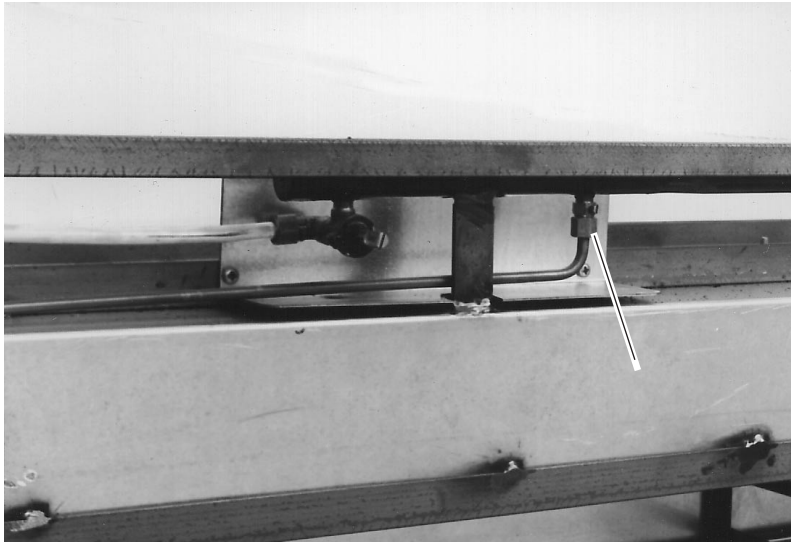

Fig. 6
2. Disconnect the compression nut from the pilot tube with  $\frac{1}{2}$ " wrench. (Fig. 6)